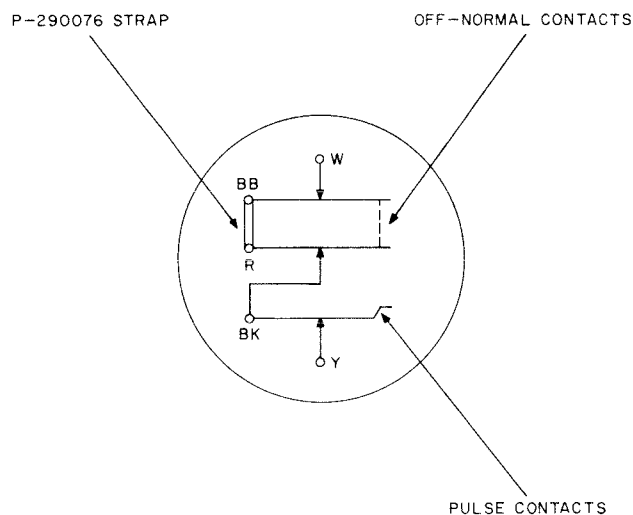

Fig. 11—Use of Dial Straps
3.08 When 5- or 6-type dials are used in station circuits where the R spring is not normally required, it is necessary to strap dial terminals R and BB with P-290076 dial straps as shown in Fig. 11.